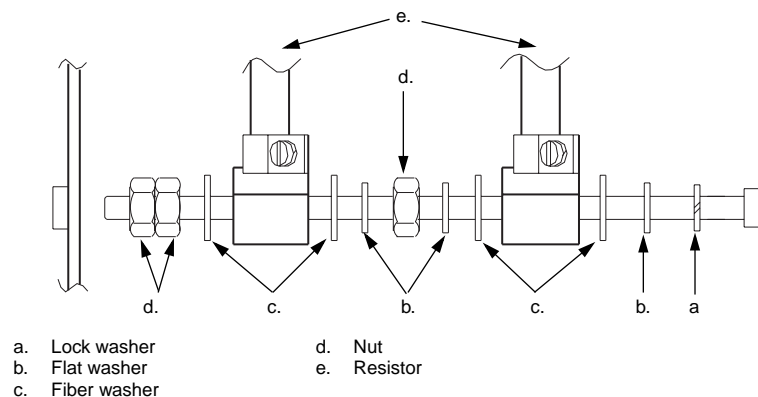

Figure 4.3.45: Precharge Resistors
12. Place the hardware on the new resistors with the connection tabs on the resistors pointed away from the mounting bracket (see Figure 4.3.45). Secure with hex head bolts and torque to 8 lb-in (0.9 N•m).